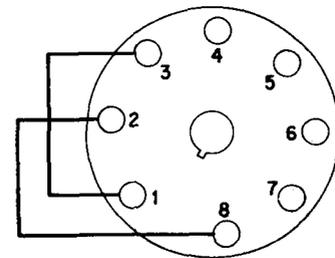
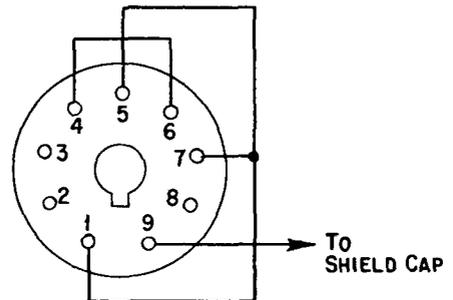

Fig. 1 - 8-Pin Shorting Plug
Fig. 2 - 9-Pin Shorting Plug
2.02 Fig. 1 shows the schematic for the 8-pin plug. Fig. 2 is the schematic for the 9-pin plug. **IF THESE PLUGS ARE REQUIRED, THEY SHOULD BE MADE UP LOCALLY.**